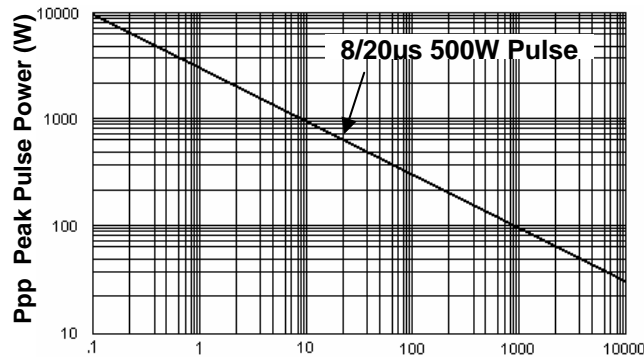

Figure 1
- Peak Pulse Power: 500 watts (8/20 μs, Figure 1)